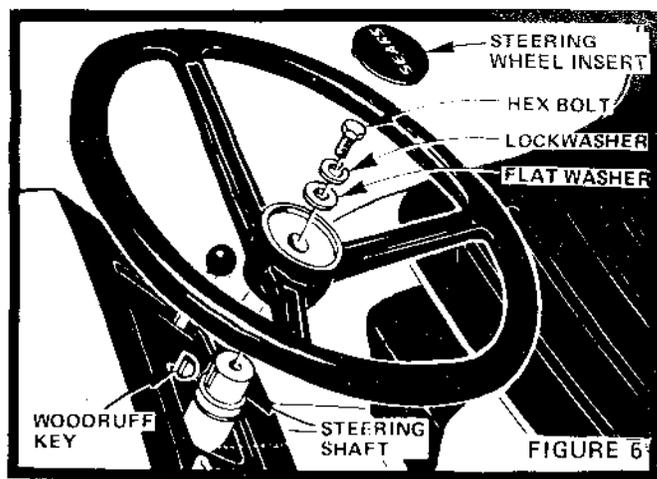

FIGURE 6
- Remove Hex Bolt, Lockwasher and Flat Washer from Steering Shaft (Fig. 6).
- Fasten with Flat Washer, Lockwasher and Hex Bolt (Fig. 6). Tighten securely.